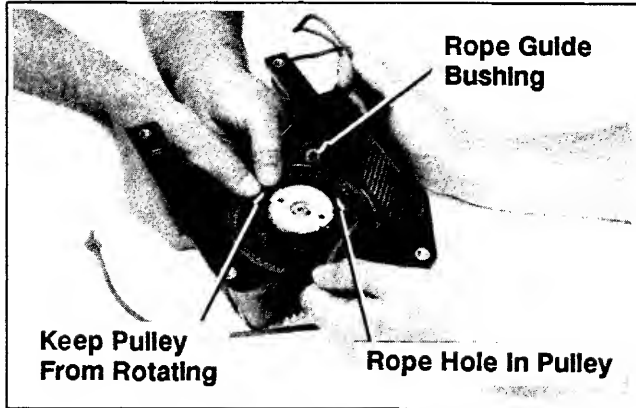

Figure 7-4. Installing Rope.
9. Insert the new rope through the rope hole in starter pulley and rope guide bushing of housing. See Figure 7-4.